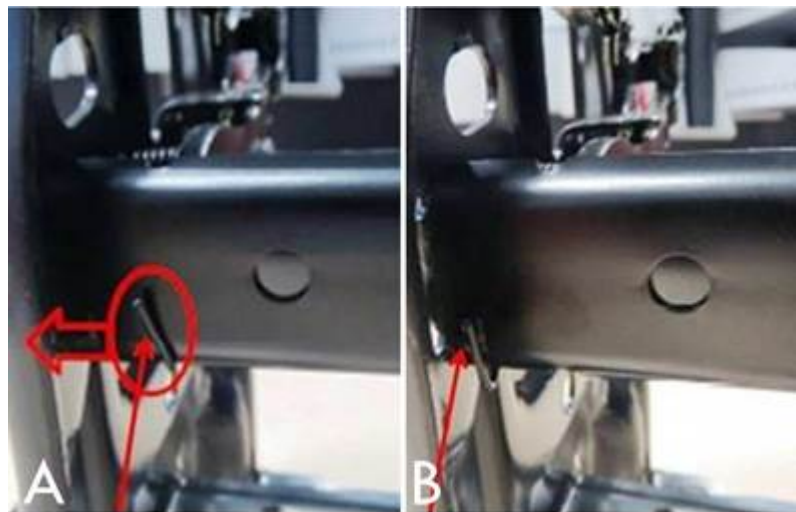

Figure 5. Spring in incorrect position (A). Spring in correct position (B).
4. Inspect the position of the bracket spring. Move the bracket spring on the housing in the direction indicated in the image at right (Figure 5, A). This will increase the tension of the spring.